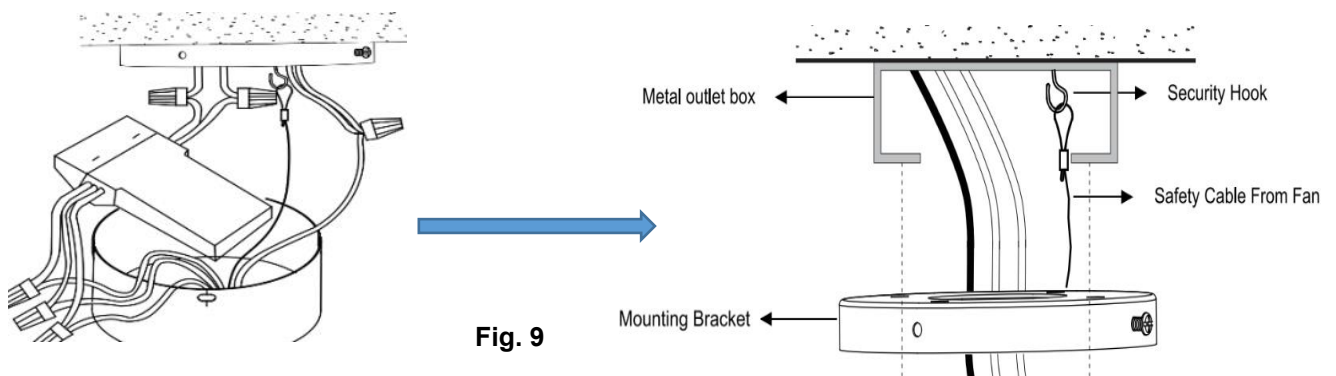

Fig. 9
7. Pull the metal safety cable on the security hook, tight the safety cable (Fig.9)